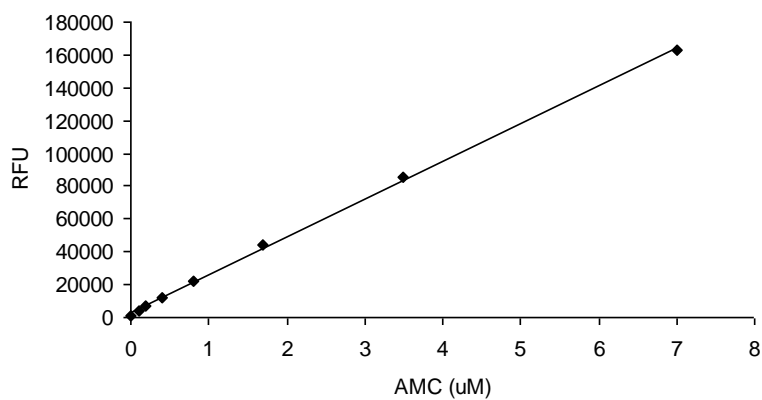

Figure 2. AMC reference standard.
- Plot the AMC fluorescence reference standard curve as RFU (relative fluorescent unit) versus concentration as shown in Figure 2.